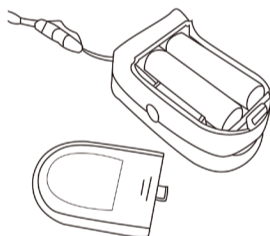

Figure 2: Batteries Installation
- Step 1. Insert the two AAA size batteries in the proper direction (Refer to Figure 2).